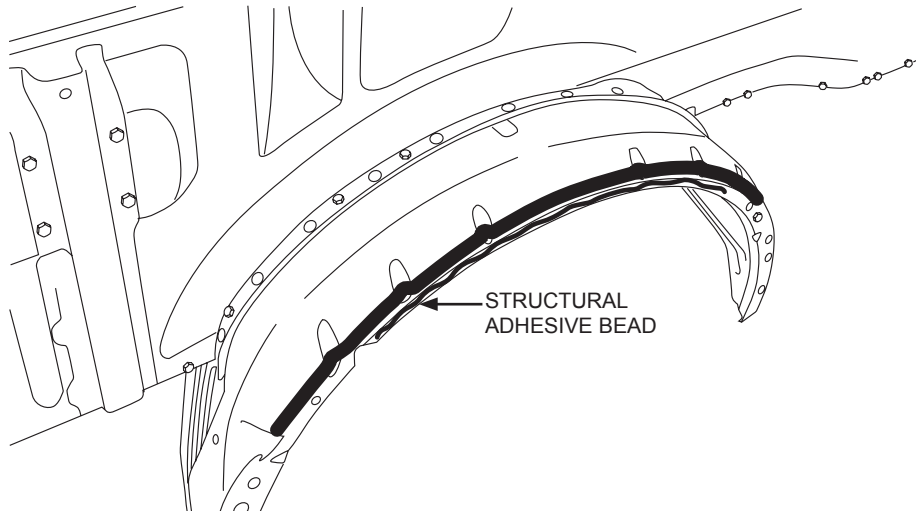

FIGURE 5
- (Refer to Figure 5) for structural adhesive bead size 6mm width 3mm height.
- (Refer to Figure 5) for structural adhesive bead size 4mm width 2mm height.